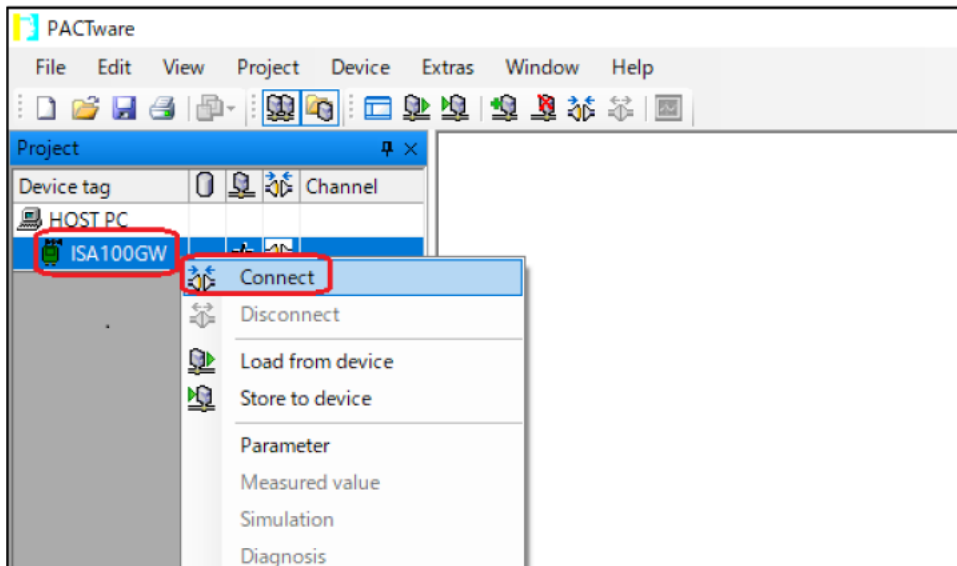

Figure 5-24 Connecting to ISA100.11a wireless upstream system
- ③ “ISA100GW” is added to “HOST PC” in the tree menu on the left side of the main window. Right-click “ISA100GW”, then select “Connect” to connect to the ISA100.11a wireless upstream system. (Figure 5-24)